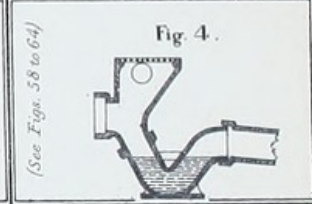

Fig. 4.
- "Ventilating drain-syphon and sewer-interceptor." See Fig. 4.